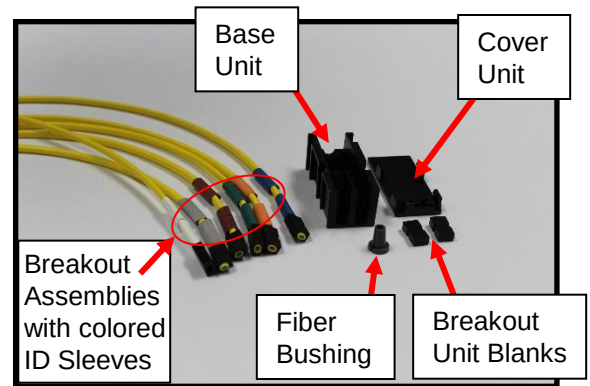

Figure 1
4.2 FT72FBK-12SU / -MU Field Termination Kit: Base Unit with Cover, six 3.8mm OD Breakout Assemblies each with two color-coded identifier sleeves/tubes, one ea. 3.8mm for "PVS" / 4.0mm for "PV3-PV4" Bushings and two breakout unit blanks. **See Figure 1.**
Note: Ensure two identically-colored identifier sleeves/tubes have been installed onto each Breakout Assembly. **See Figure 1.**